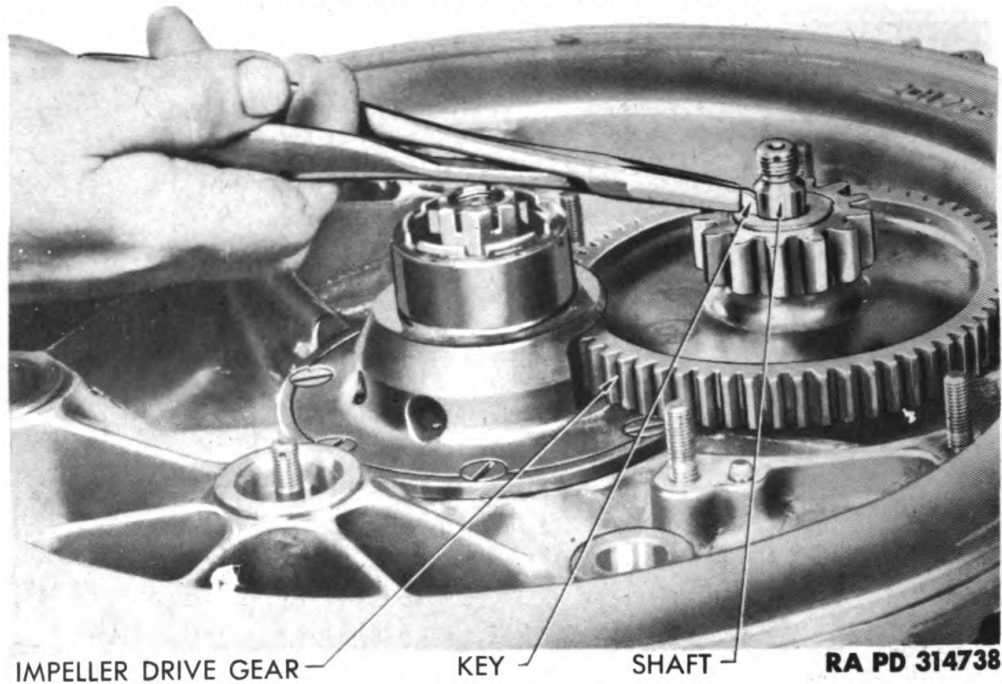

Figure 145 – Removing Key from Impeller Driver Gear Shaft
b. **Remove Impeller Drive Gear Shaft Support.** Remove cotter pin from nut on impeller drive gear shaft, and cotter pins from nuts holding shaft support to crankcase (fig. 145). Remove five nuts, one from gear shaft, and four from gear shaft support. Lift support off studs and shaft. Pull key out of top of impeller shaft. Shaft and gear will remain with diffuser section. *NOTE: It is important to remove key at this time to prevent possibility of key dropping down with the impeller drive gear into bearing after impeller has been removed.*
d. Remove Impeller Drive Gear and Shaft. Push impeller drive gear shaft up through diffuser section. At same time, hold drive gear and bushing from below. Upper end of shaft, before removal, is shown in figure 145. Remove diffuser section from fixture; turn section over and reinstall on same fixture.